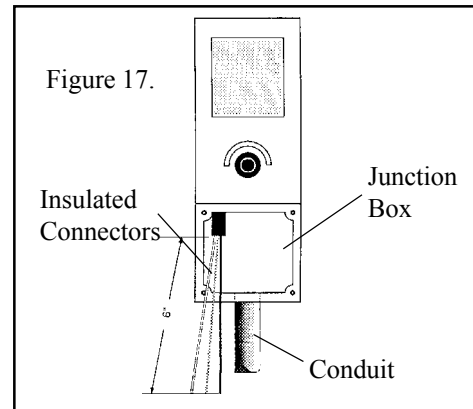

Figure 17.
- Pull cord out of the junction box and strip a six (6) inch section of the outer insulation jacket from the cord, see Figure 17.